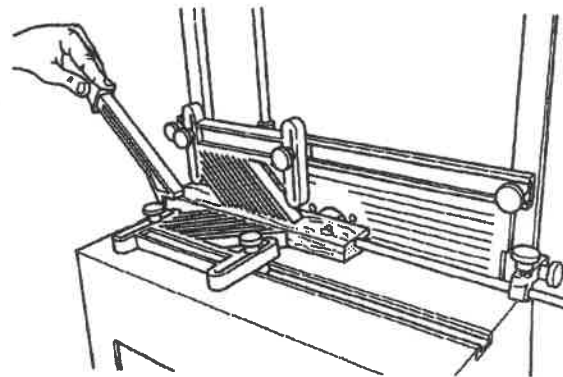

Fig. D-15
8. Turn on the Dust Collector and router. Use a push stick, as shown in Fig. D-15, and make the cut.